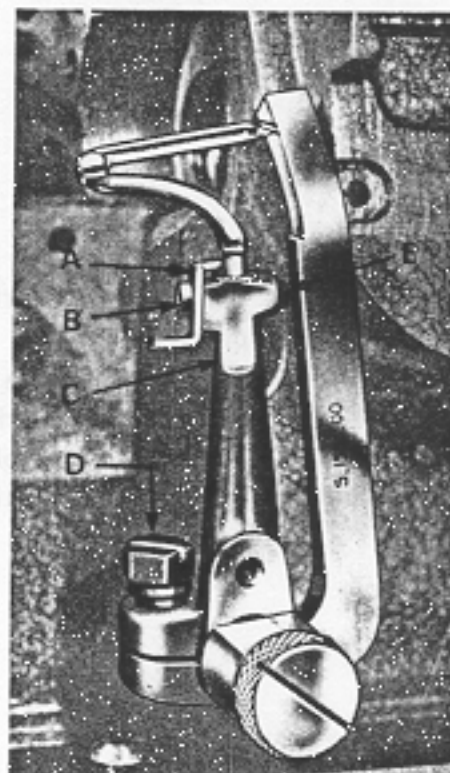

fig. 4
- S. 1665.00 for all operations except No. 4 (fig. 4)
- S. 1555.00 for operation No. 4 (fig. 4).
### 4. Setting lower looper (fig. 4).
- Firmly tighten screw E (fig. 4).